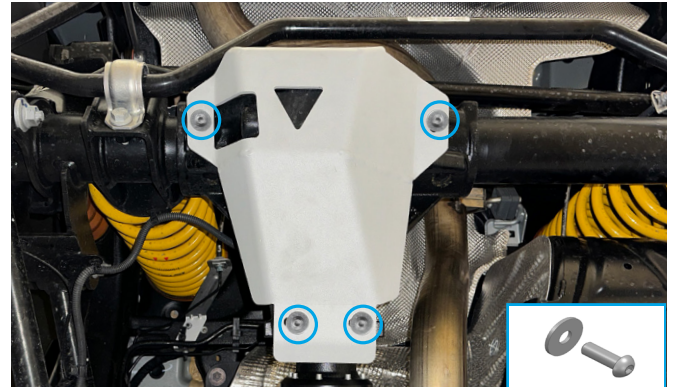

Fig. 2
2. Install the rear differential skid plate (item 1) as shown in fig.2 and fix it using screws M10x25 and penny washers 10 (items A, B).